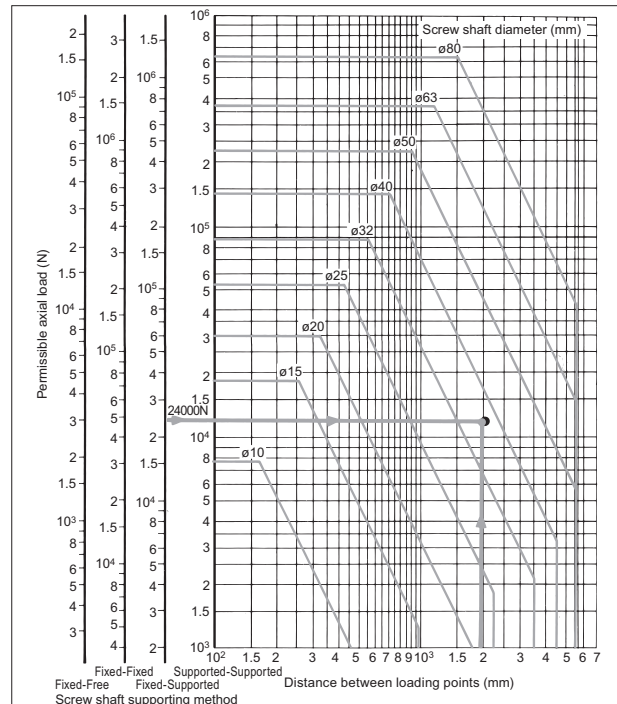

Figure 7 Diagram of permissible axial load
1. Find out the intersecting point where the permissible axial compression load on the scale of "Fixed-Supported" is 24000N and the distance between loading points is 2000 mm as shown by a thick line in Figure 7.